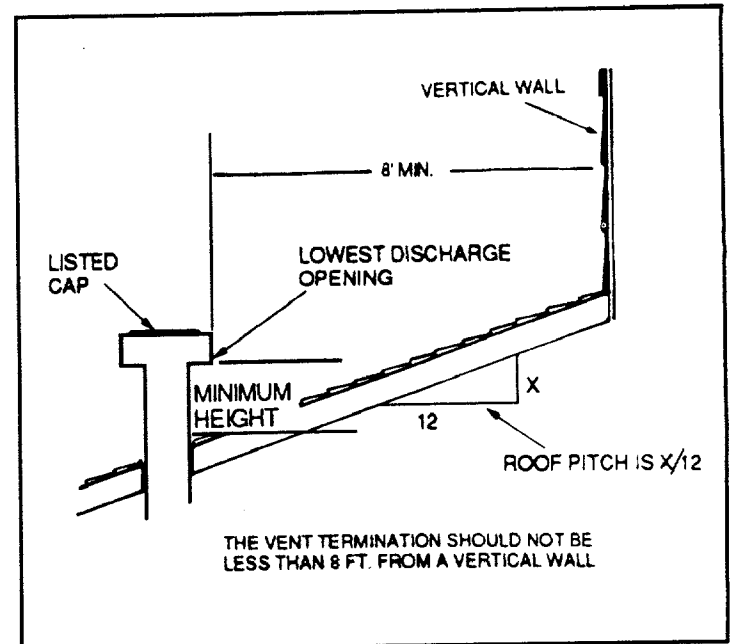

FIGURE 10
8. Listed gas venting systems using listed vent caps 12" and smaller in size may terminate in accordance with the GAS VENT TERMINATION - Table 6 and Figure 10.